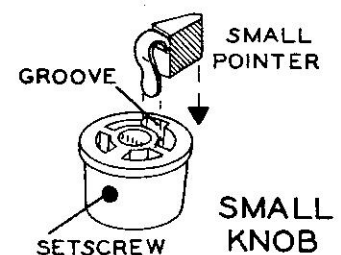

Figure 15
- () Refer to Figure 15 and attach the knob pointers on the five knobs.